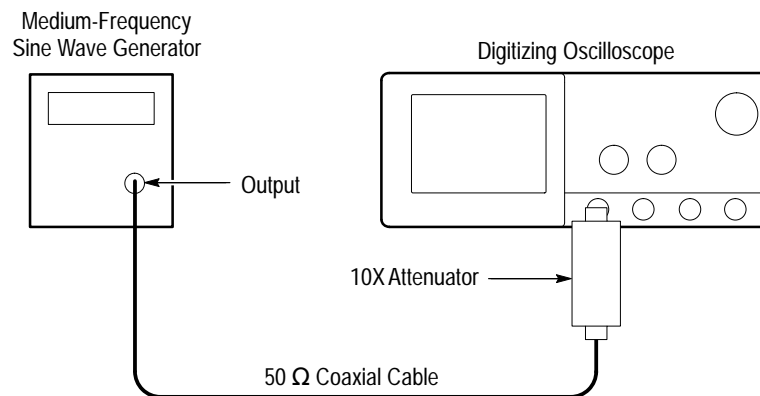

Figure 4–13: Initial Test Hookup
- c. *Hook up the test-signal source:* Connect the output of a medium-frequency leveled sine wave generator (Item 11) to CH 1. Do this through a 50 Ω precision coaxial cable, followed by a 10X attenuator. See Figure 4–13.
- c. *Set upper and lower limits that ensure triggering:* See Figure 4–14.